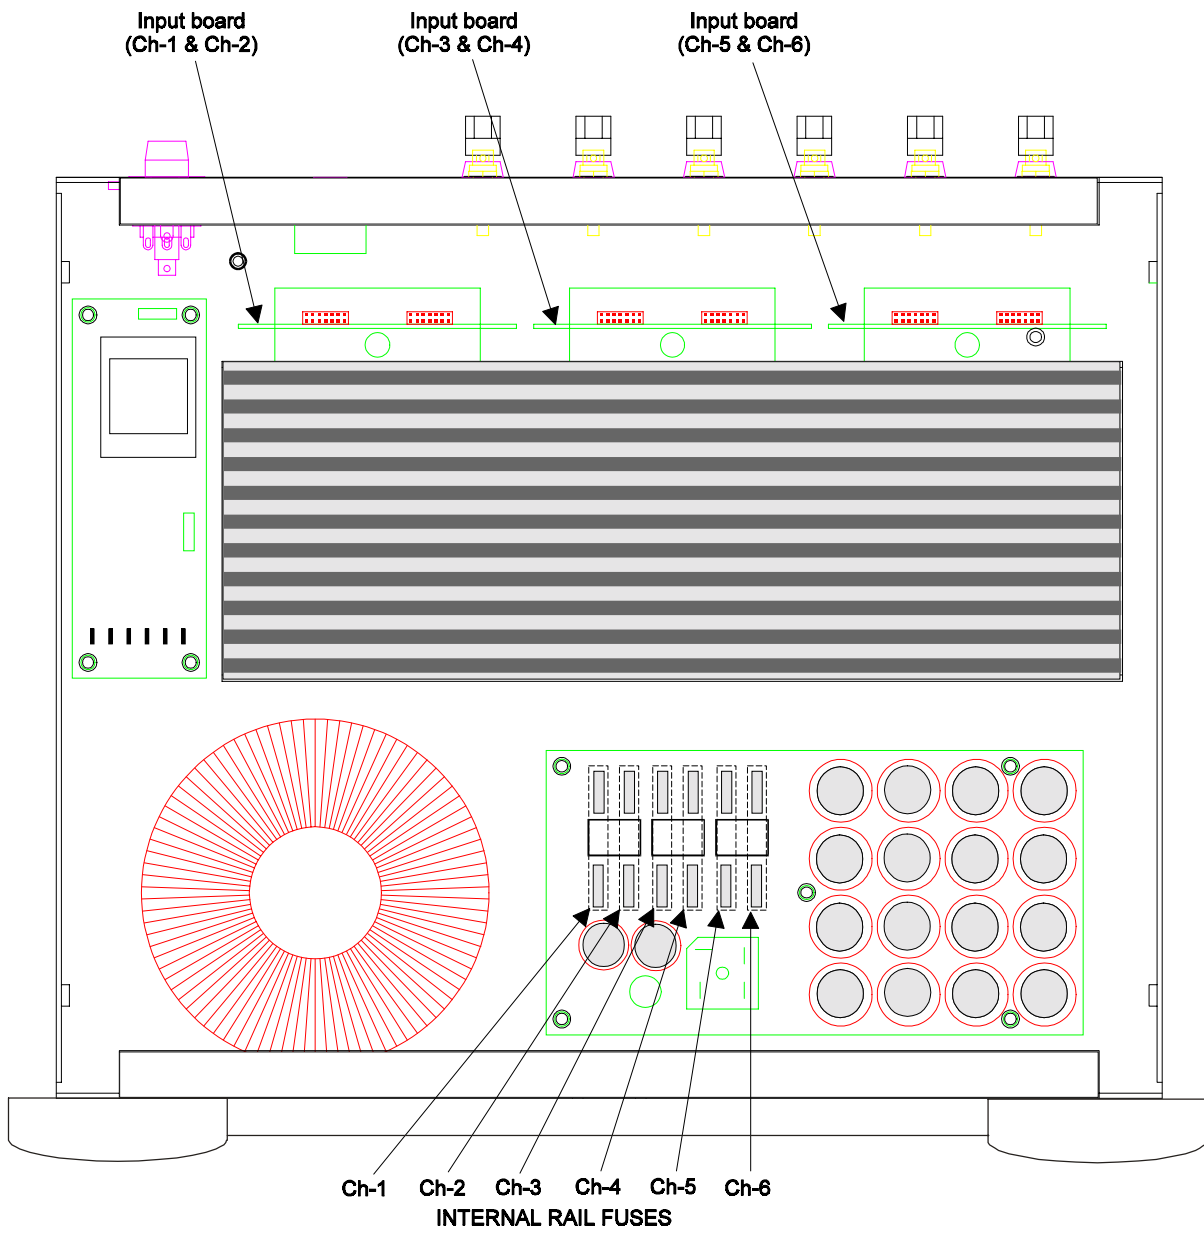

Fig.1 CAV-75 top view
- 3) Locate the input board(s) of channels to be switched. (see fig.1 page 7)